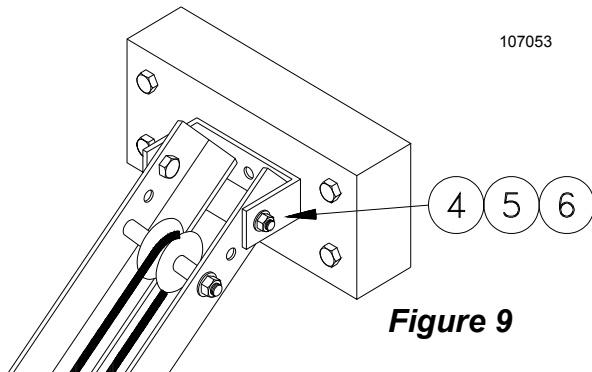

Figure 9
5) With the door in the down position, loosely attach the rail support to the mounting bracket using two (2) bolts, lockwashers and nuts (Items 4, 5, 6). See Figure 9.